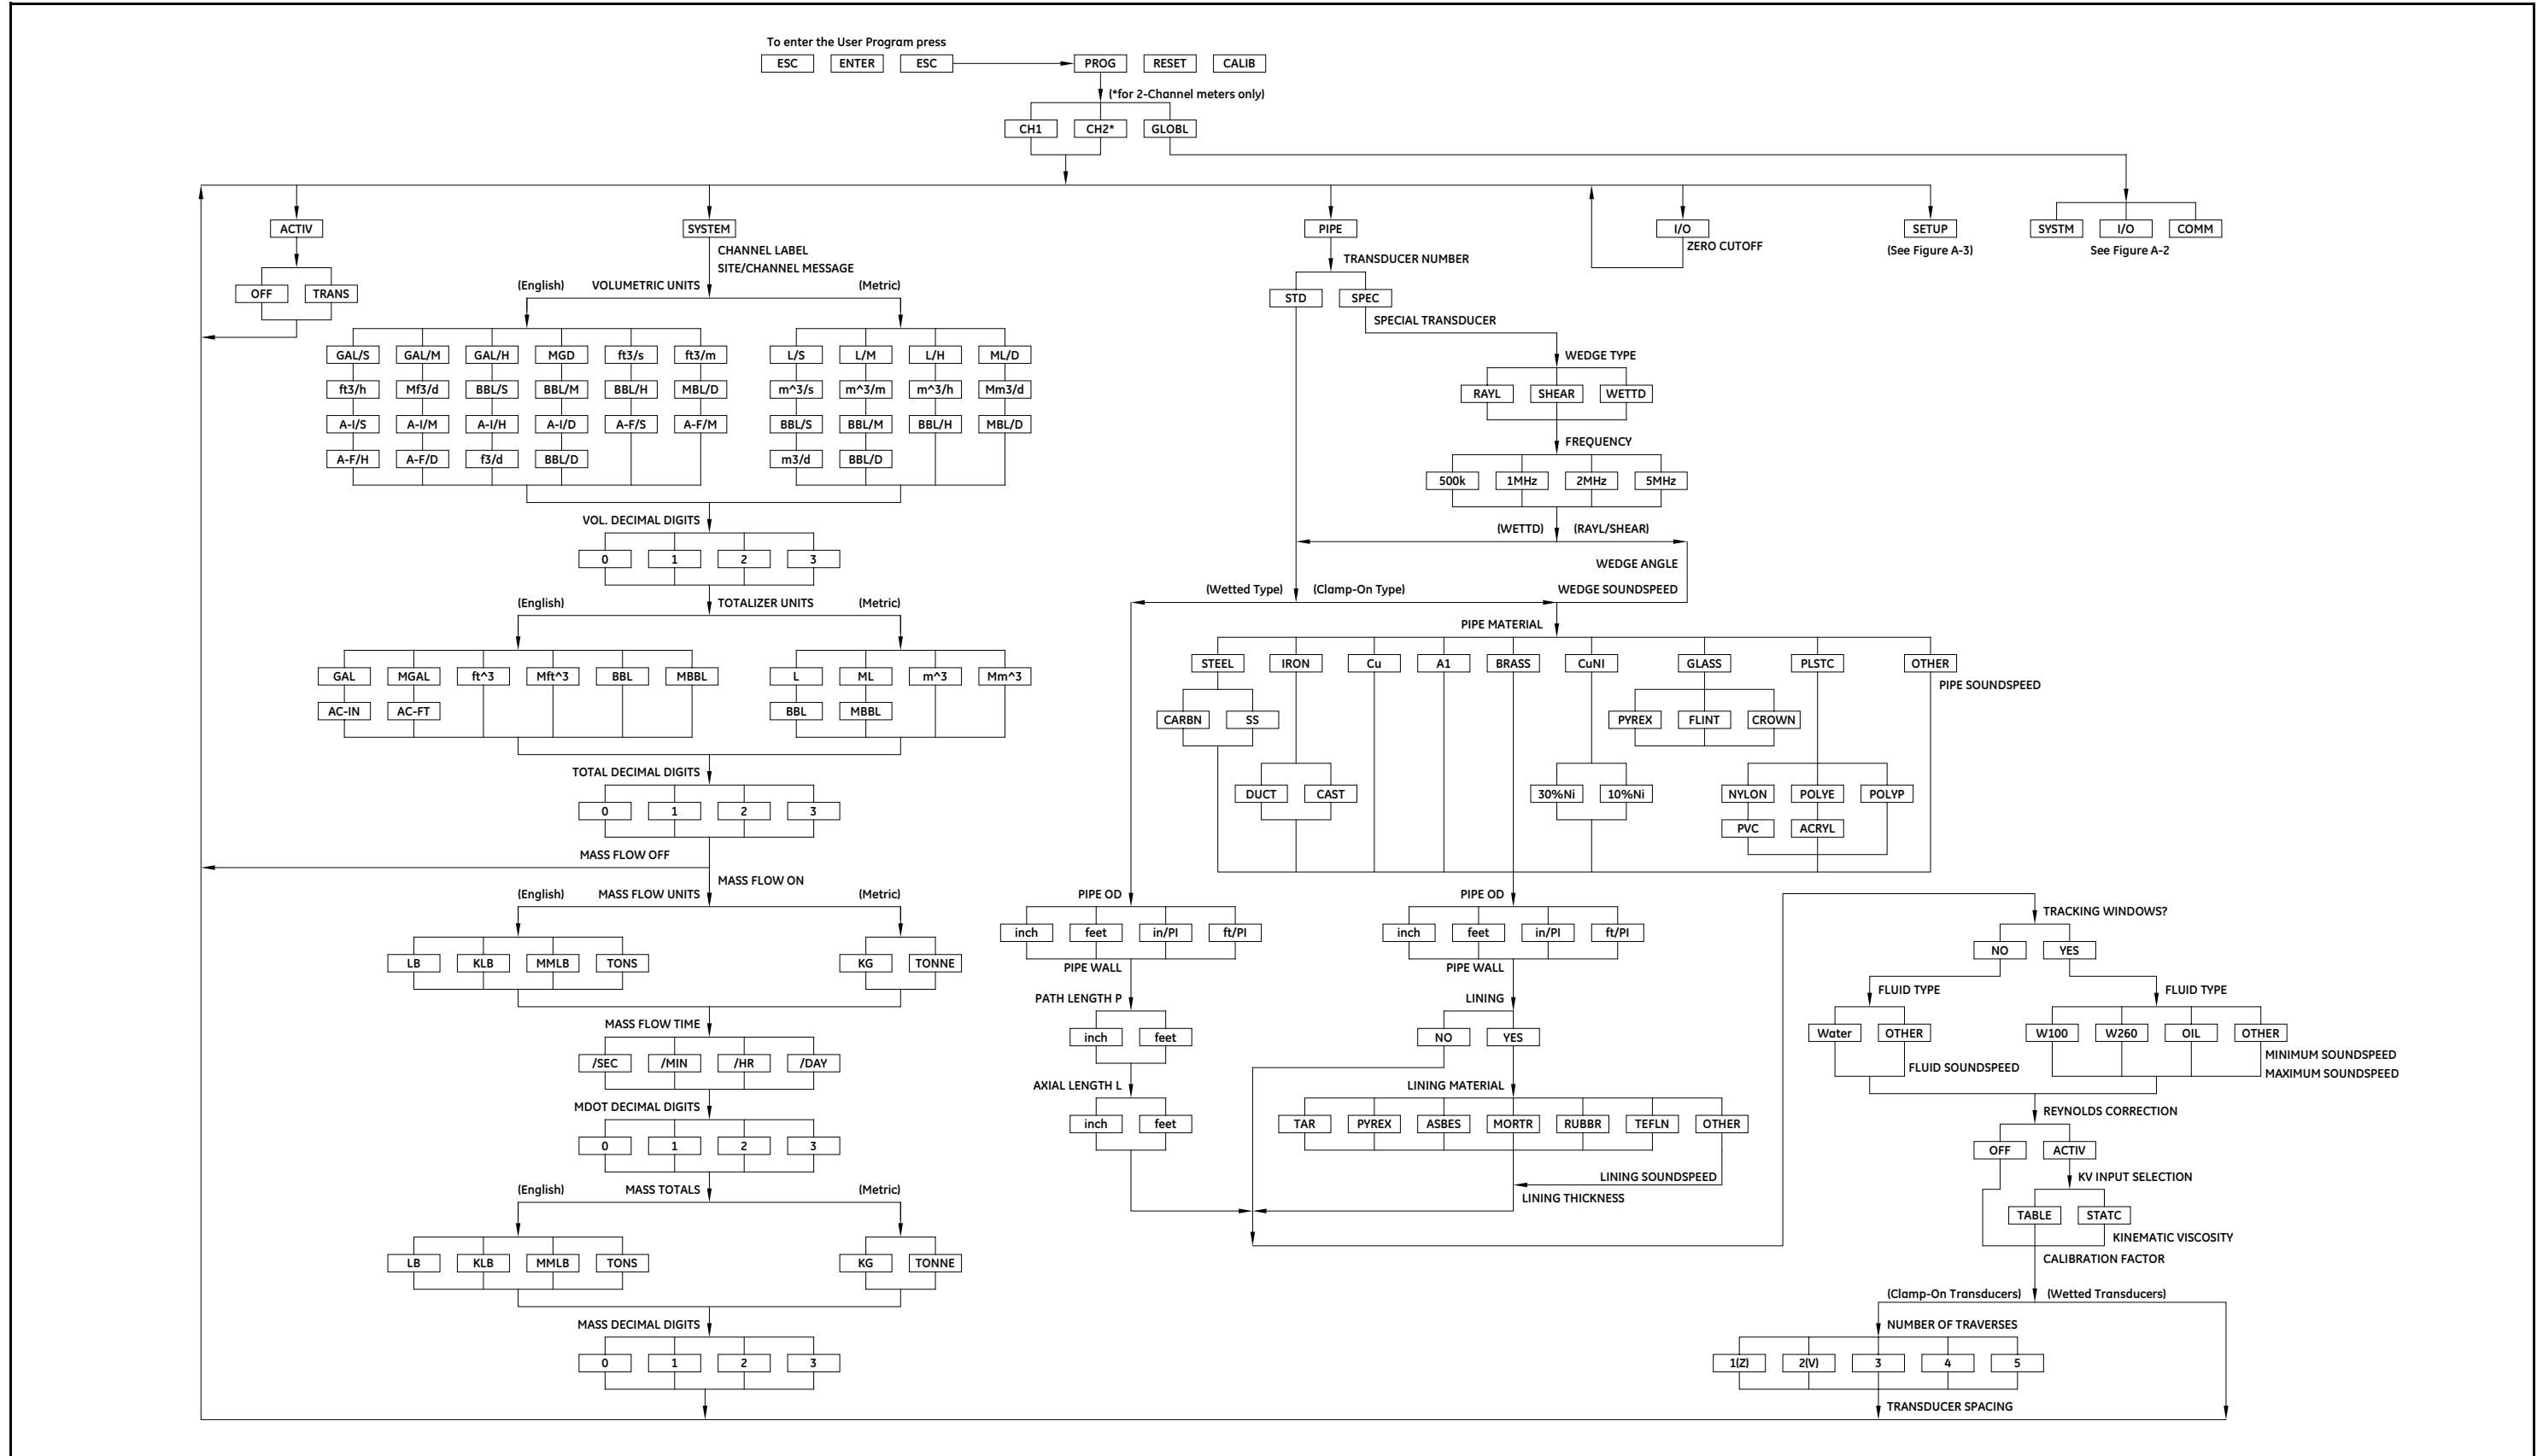

Figure 10: The CHx>ACTIV, SYSTM, PIPE, and I/O Menu Map
- Figure 10, “The CHx>ACTIV, SYSTM, PIPE, and I/O Menu Map,” on page 79